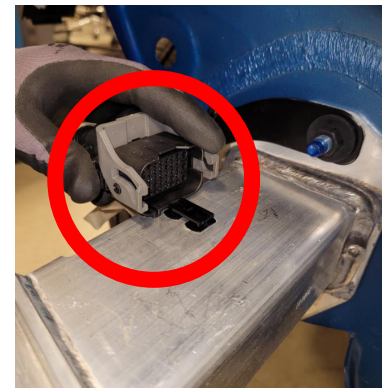

Figure 3
- 1. Remove taillight panel** – Open tail gate. Using a plastic trim tool remove (2) round plastic covers from panels near taillight, both sides. Using T15 torxbit remove (2) screws from those panels. Remove plastic panels.
- 2. Loosen wheel well trim / liner** – Using a T15 torxbit remove (2) screws at the bottom of wheel well liner per side. Gently loosen the wheel well trim on the wheel well liner up to the edge of fascia. Using a 7 mm socket remove (1) bolt behind wheel well trim, per side.
- 3. Remove fascia** – Using a T15 torxbit remove (1) screw near bottom tail gate per side. Using a flat head screwdriver and a T15 torxbit remove (2) rivets and (2) screws respectively at the bottom of fascia. Use plastic trim tools to remove the fascia starting at the outer edges near the wheel wells and gently pull the fascia. Disconnect wiring harness male part on driver side if present.
- 4. Remove bumper beam** – Remove the electric wiring harness female part on the bumper beam by gently sliding it, see Figure 3. Using a 15 mm socket remove (2) nuts from the metal bracket on the left-hand side of the bumper beam and remove metal bracket holding the wiring harness. Secure the wiring harness with a tape on the body of the vehicle. Using a 15 mm socket remove the rest of (4) nuts from the bumper beam. Remove bumper beam.